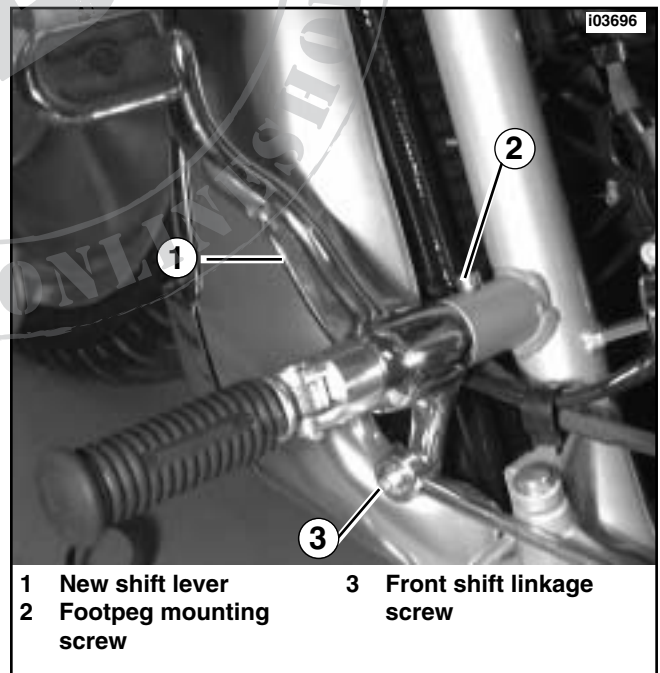

Figure 2. Install New Shift Lever
4. See Figure 2. Obtain new shift lever assembly from kit. Orient as shown and slide left footpeg mount through opening in shift lever and into frame. Make sure footpeg folds upward and rearward.